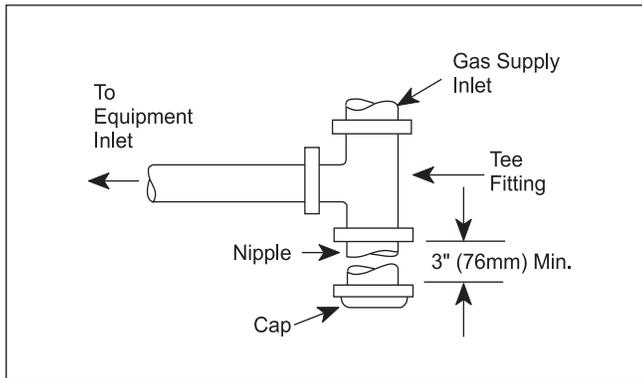

Figure 11. T-Fitting Sediment Trap Installation.
3. A trap (drip leg) must be provided ahead of the gas controls (see Figure 11). A manual gas shutoff valve must also be provided for service